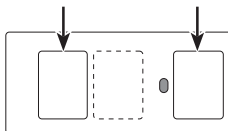

Figure 7
- **Tape Mounting:** When attaching chime extender with double-sided tape, remove paper from both sides of the double-sided tape and apply to clean surface (see Figure 7). Install cover.